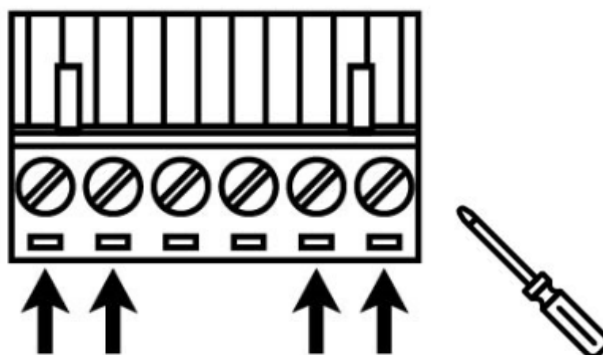

Figure 2.5: Power Terminal Block
Step 2 Tighten the wire-clamp screws to prevent the wires from loosening, as shown below in Figure 2.5.